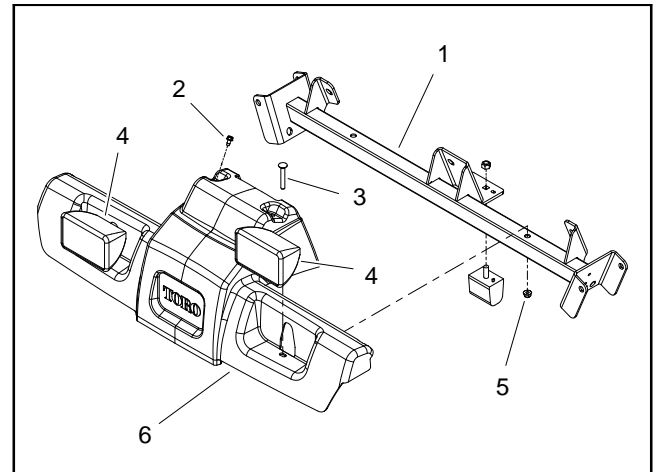
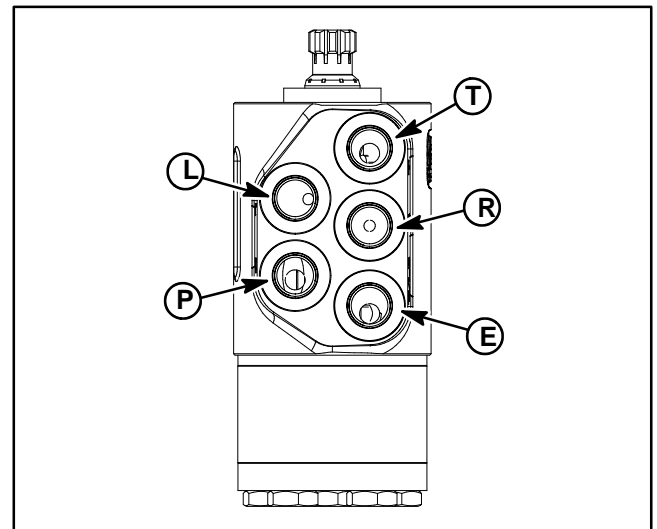

Figure 77
Figure 78
2. Remove fasteners that secure shroud to front of machine (Fig. 77). Remove shroud from machine to allow access to steering control valve.
3. Remove four (4) flange head screws that secure column brace (item 12) to frame platform. Remove brace from machine to allow access to steering column fasteners.
7. Label all hydraulic connections for assembly purposes. Note port designations on steering control valve (Fig. 78).
3. Slide steering control valve shaft into steering column universal joint. Position control valve with ports toward front of machine. Secure steering control valve to steering column with four (4) socket head screws. Torque screws in a criss-cross pattern from **7 to 10 ft-lb (10 to 13 N-m)**.
4. Position steering column assembly to machine. Secure steering column in place with four (4) socket head screws and flange nuts.
7. Position steering column brace (item 12) to machine and secure with four (4) flange head screws.
9. Position shroud in place and secure with removed fasteners (Fig. 77).